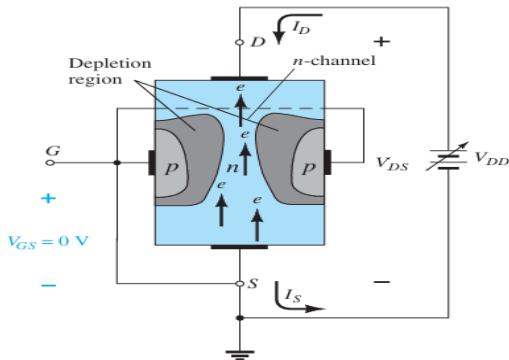
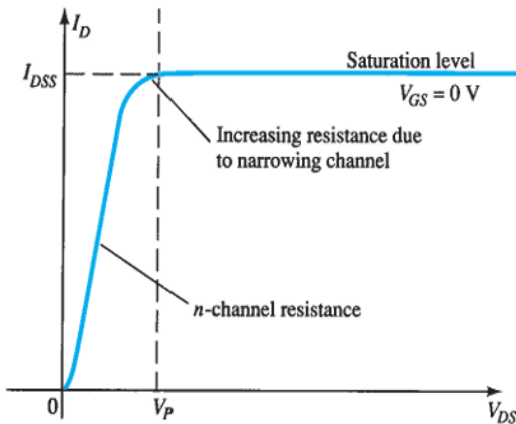

Figure 3: JFET at $V_{GS} = 0\text{ V}$ and $V_{DS} > 0\text{ V}$.
Figure 5: I_D versus V_{DS} for $V_{GS} = 0$ V.
- In Fig. 3, a positive voltage V_{DS} is applied across the channel and the gate is connected directly to the source to establish the condition $V_{GS} = 0\text{ V}$.
- The instant the voltage V_{DD} ($=V_{DS}$) is applied, the electrons are drawn to the drain terminal, establishing the conventional current I_D with the defined direction of Fig. 3.
- Under the conditions in Fig. 3, the flow of charge is relatively uninhibited and is limited solely by the resistance of the n-channel between drain and source.
- As the voltage V_{DS} is increased from 0 V to a few volts, the current will increase as determined by Ohm's law and the plot of I_D versus V_{DS} will appear as shown in Fig. 5.
- As V_{DS} increases and approaches a level referred to as V_P in Fig. 5, the depletion regions of Fig. 3 will widen, causing a noticeable reduction in the channel width.
- The reduced path of conduction causes the resistance to increase and the curve in the graph of Fig. 5 to occur.
- The level of V_{DS} that establishes this condition is referred to as the pinch-off voltage and is denoted by V_P , as shown in Fig. 5.
- As shown in Fig. 5, however, this is hardly the case- I_D maintains a saturation level defined as I_{DSS} in Fig. 5.